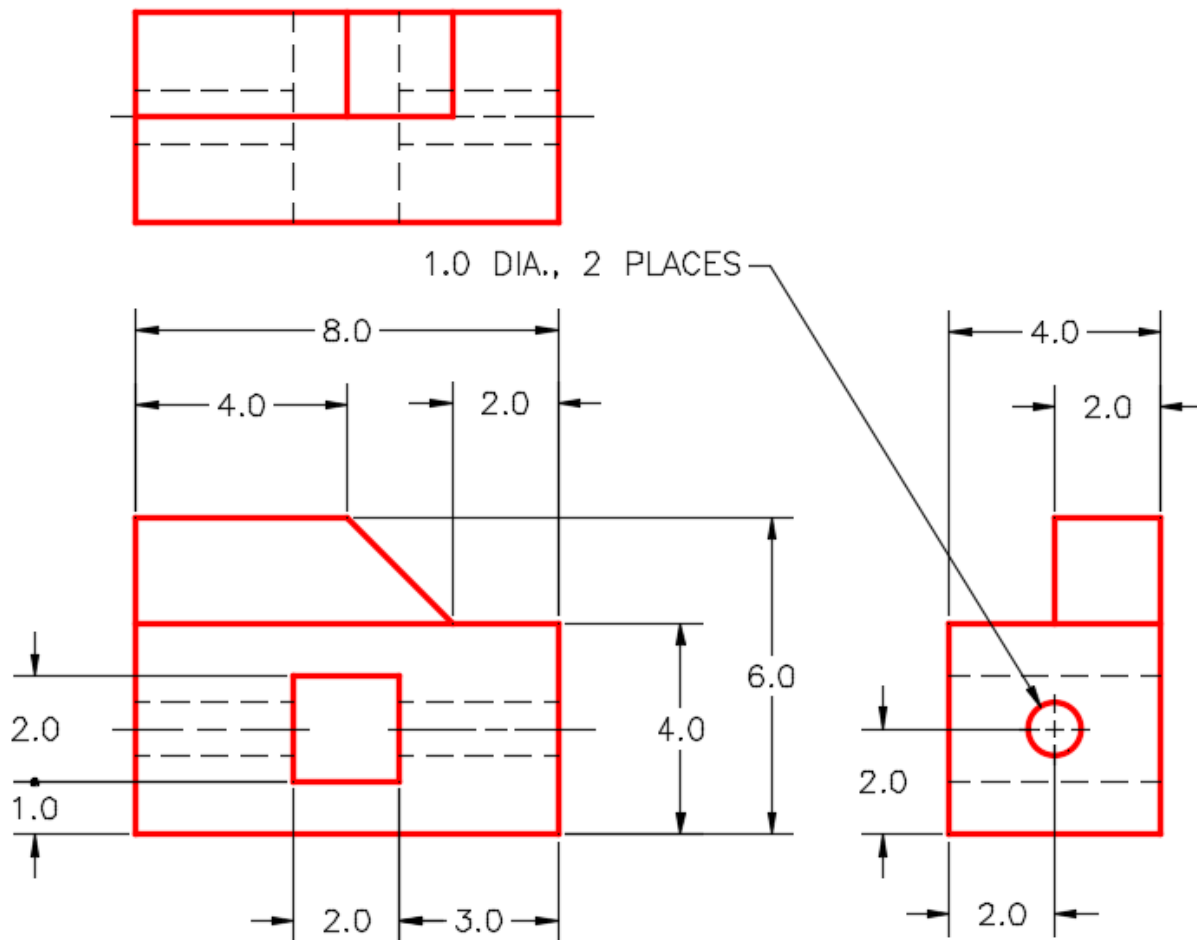

Figure Step 4A
- Step 4** Draw a solid model of the object shown in the figures. (Figure Step 4A and 4B)